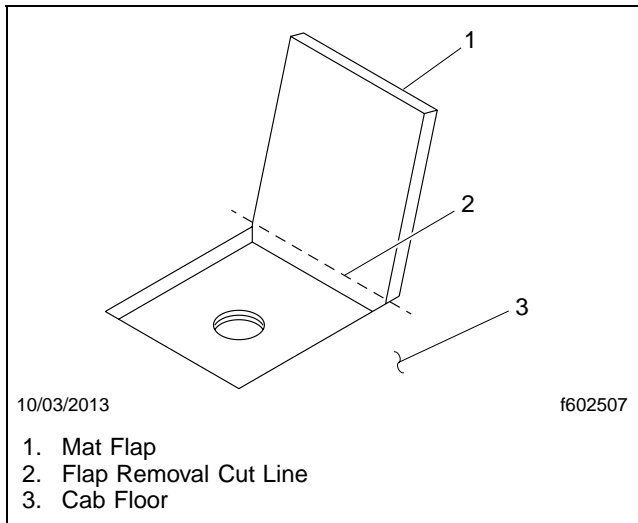

Fig. 2, Mat Flap
2. Remove the pre-cut mat flap by cutting along the indicated cut line, as shown in **Fig. 2**.